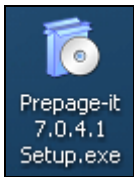

Figure 10 PrePage-it installer
1. Start the PrePage-it installer application found on the PrePage-it CD. The installer is an .exe file named similarly to the one shown in Figure 10 (below) i.e. Prepage-it 7.0.4.1 Setup.exe.